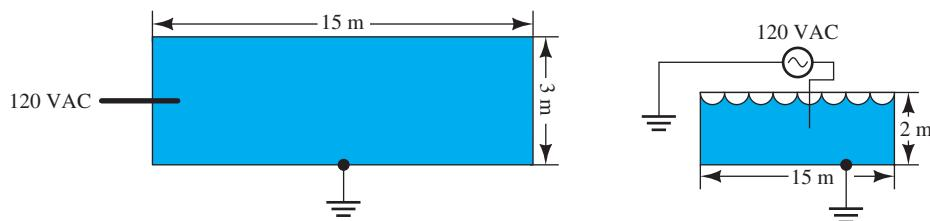

FIGURE P15.2 Swimming pool diagram for Problem 15.2.
- 15.2** (A) An electrical power cord falls into a swimming pool, as shown in Figure P15.2. If the pool water has a resistivity of 175 $\text{k}\Omega \text{ m}$, find the current, I , that flows through the water. Assume that the pool bottom acts as a ground (return conductor), and the pool walls act as insulators.